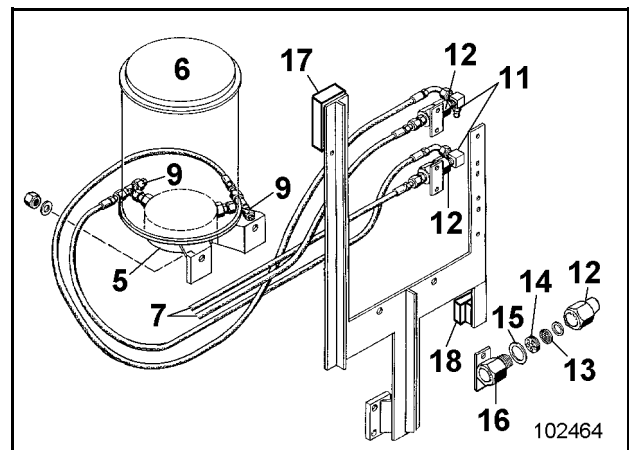
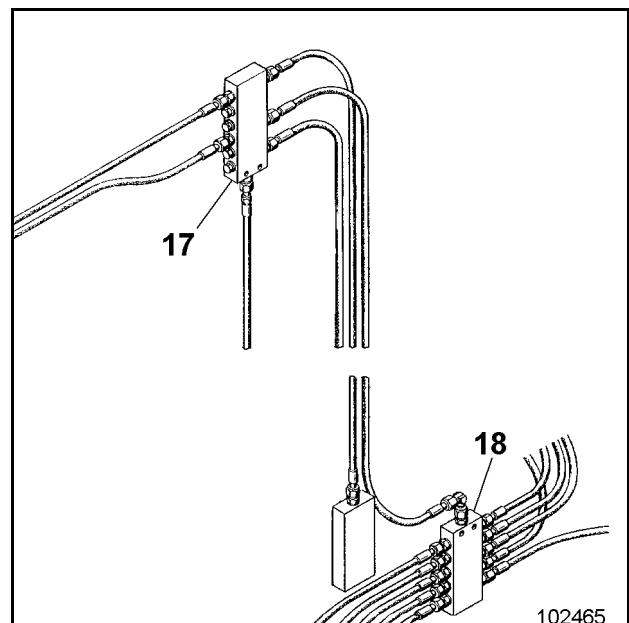

Fig. 3
Fig. 4
A grease pump (5, Fig. 3) with attached grease container (6) pumps the grease through lines (7) to the main distributors (17 and 18, Fig. 3 and Fig. 4).